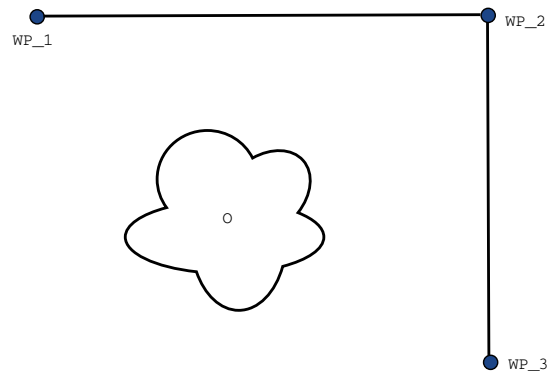

Figure 14.2: WP_1: initial position, WP_2: via point, WP_3: pick up position, O: obstacle.
Example Consider a pick and place application as an example (see figure 14.2), where the robot is currently at Waypoint 1 (WP_1), and it needs to pick up an object at Waypoint 3 (WP_3). To avoid collisions with the object and other obstacles (O), the robot must approach